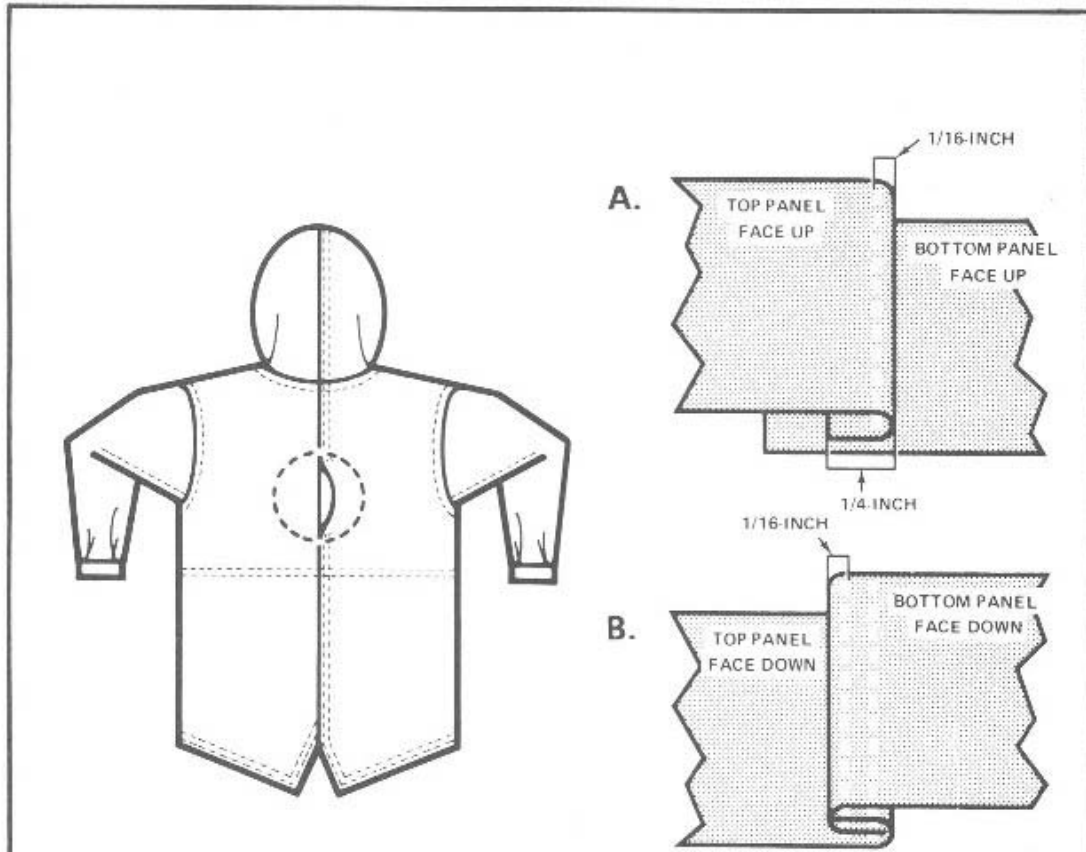

Figure 3-68
- e. Start 1-inch above the open seam and sew a straight row of stitches 1/16-inch from the folded edge of the bottom panel. Overlap the old stitch row 1-inch beyond the end of the open seam. (See Figure 3-68)